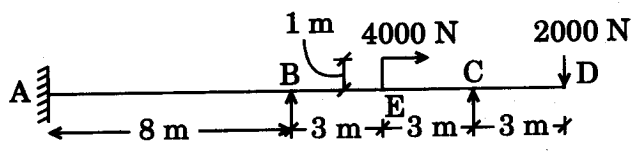

Figure 8
9. Analyse the continuous beam shown in Figure 8 by moment distribution. 10